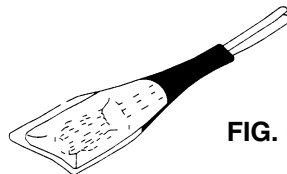

FIG. 4
8. Wrap open end of bag with Scotch® Super 33+ Vinyl Electrical Tape and position the taped end up until resin gels. (FIG. 4)